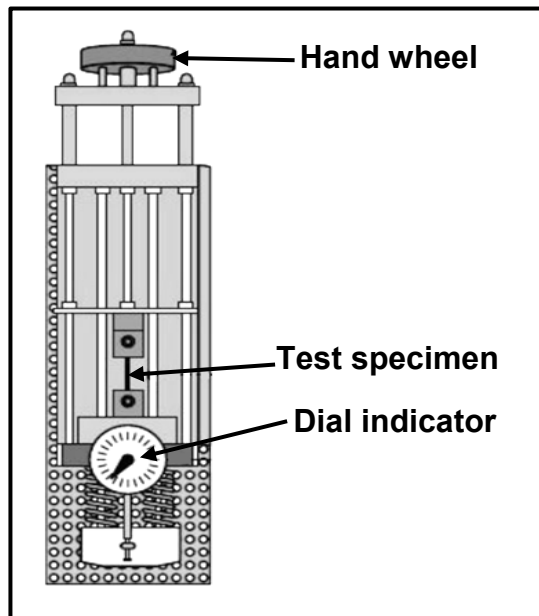

FIGURE 7.3
7.3 FIGURE 7.3 below shows a tester. Answer the questions that follow.